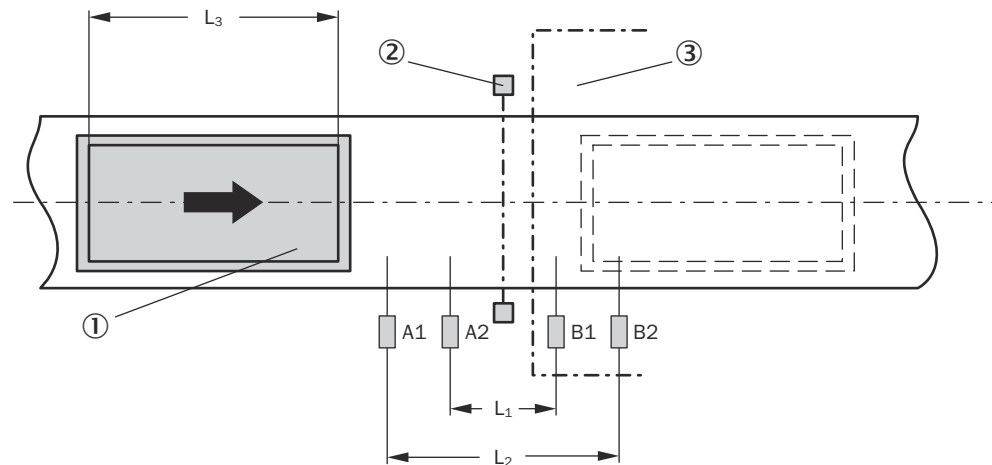

Figure 11: Example for sequential muting
- With sequential muting – between the electro-sensitive protective device and sensor A2 as well as between the electro-sensitive protective device and sensor B1 (see figure 11, page 21).